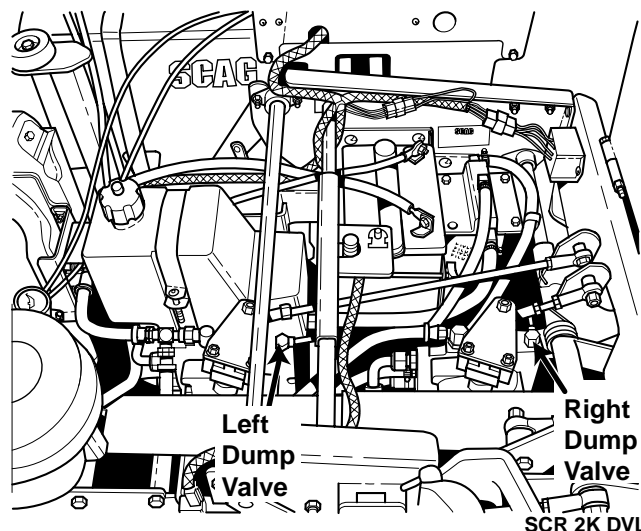

Figure 4-2 Dump Valves Location
13. **Dump Valve Control Levers (Figure 4-2).** Located under the seat, on the hydraulic pumps, used to "free-wheel" the mower. Rotating the levers clockwise until they stop allows the unit to move under hydraulic power. The levers must be in this position during operation of the mower. Rotating the levers counterclockwise, one turn, allows the mower to be moved by hand (free-wheeling).